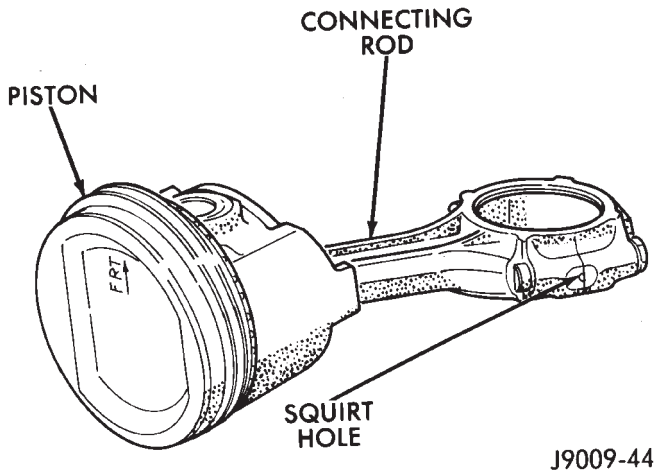

Fig. 10 Correct Alignment—Piston and Connecting Rod
- (1) Insert the piston pin pilot through the piston and connecting rod pin bores. Ensure that the arrow on the piston crown is pointing up (Fig. 10).
- (2) Position the pin pilot, piston and connecting rod on a support with the squirt hole of the connecting rod to the left-hand side (Fig. 10).
- (3) Insert piston pin through the upper piston pin bore and into the connecting rod pin bore.